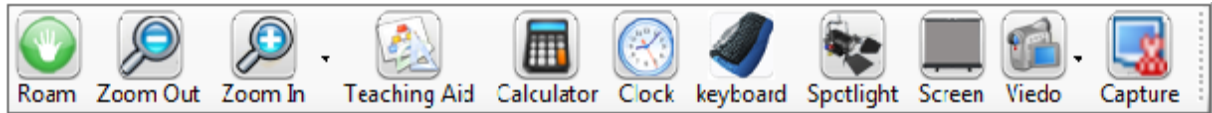

Fig 3.2.9
13) Tool button  , see menu as fig3.2.9